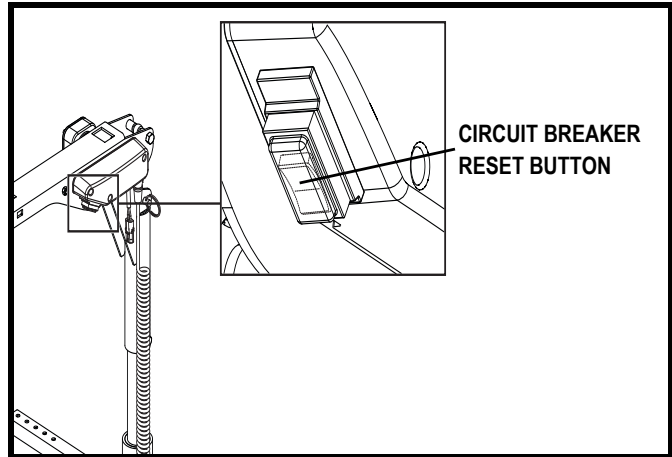

Figure 10. Circuit Breaker Reset Button
- Check the circuit breaker reset button. Reset if necessary. See figure 10.
If your Silver Boom 250 is heavily strained because of excessive loads, the main circuit breaker (see figure 10) may trip to protect the motor and electronics from damage. When the breaker trips, the entire electrical system shuts down.
2. Push in the reset button to reset the breaker. See figure 10.